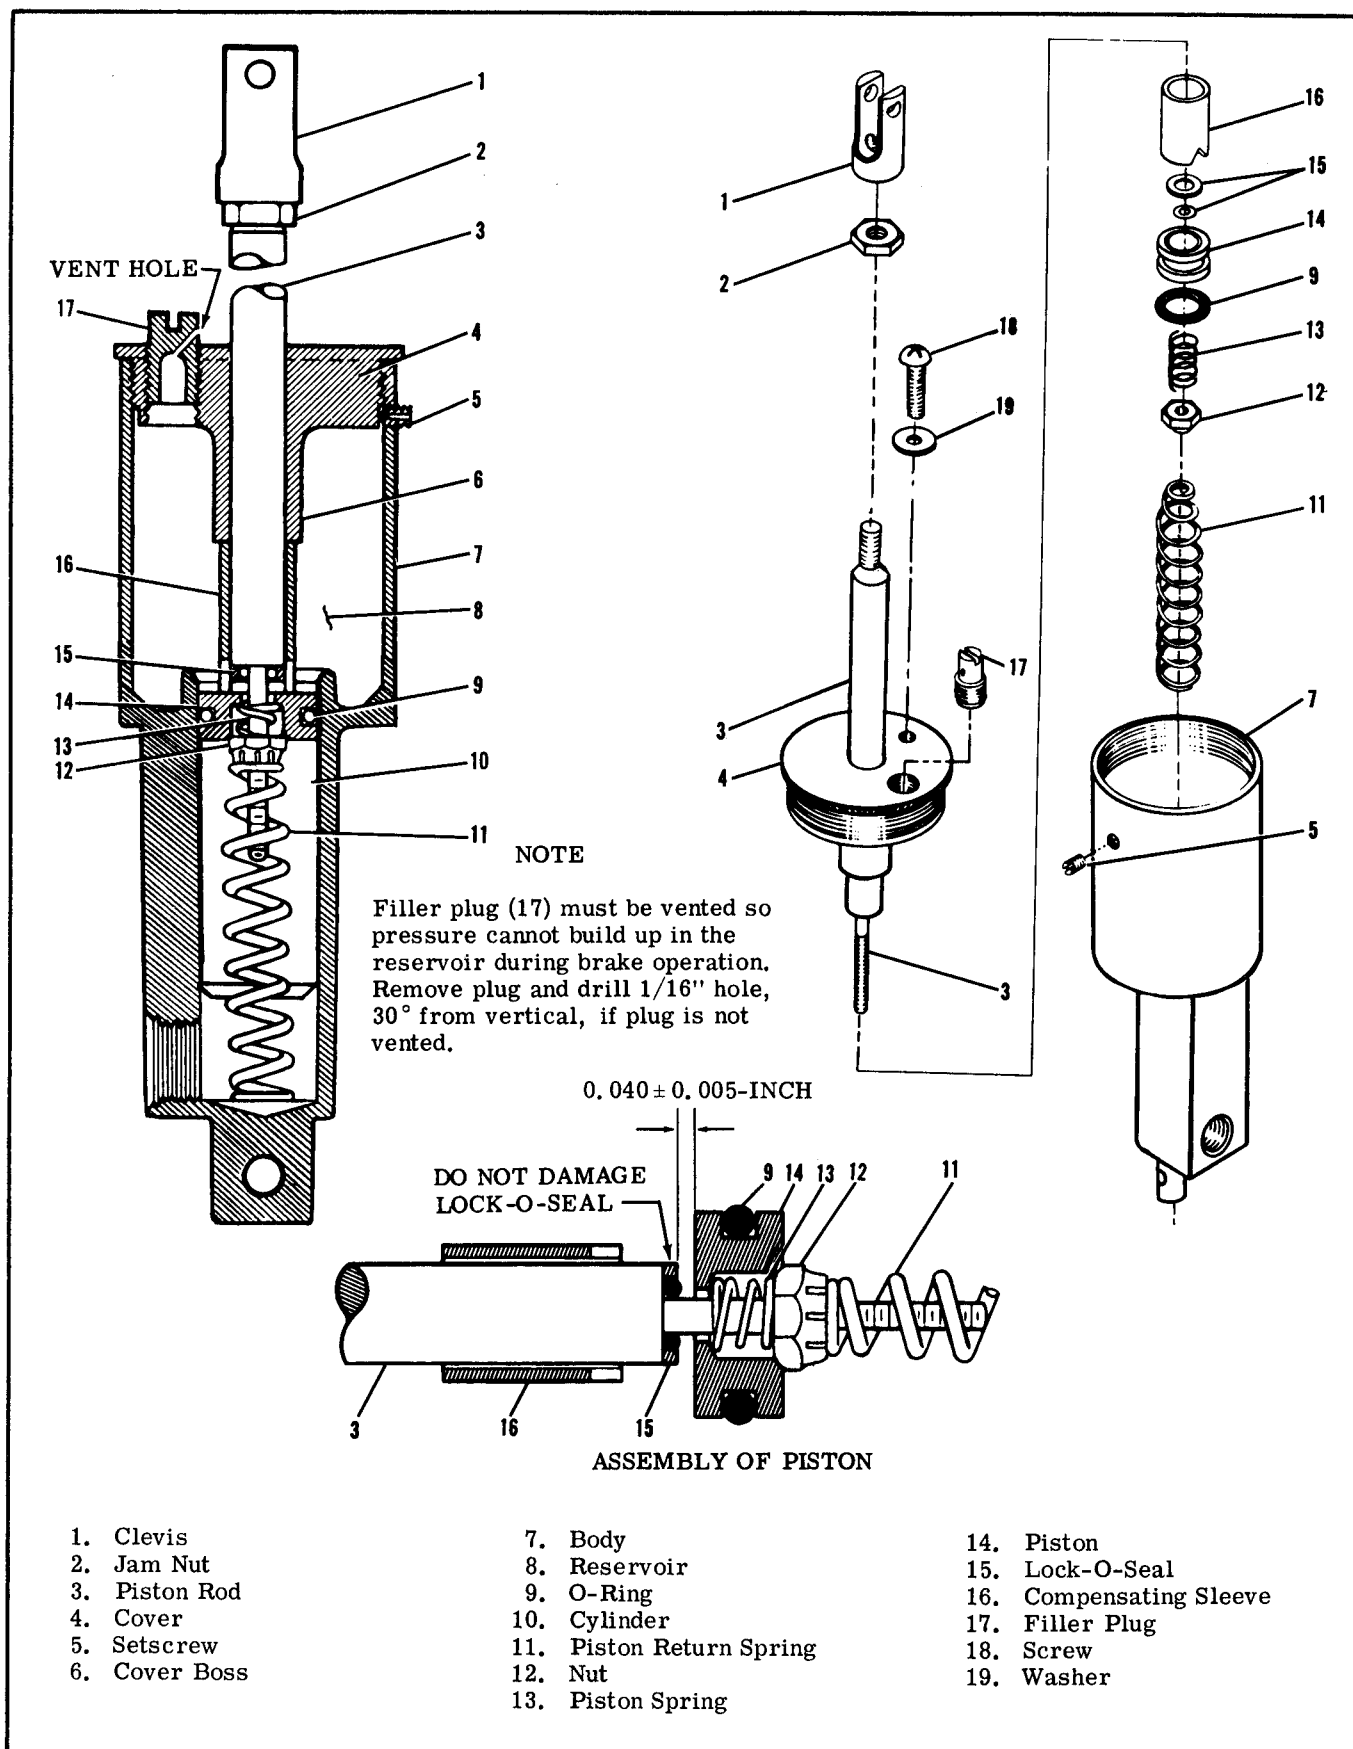

Figure 5-12. Brake Master Cylinder
## 5-61. BRAKE MASTER CYLINDER DISASSEMBLY. (Refer to figure 5-12.)
- a. Unscrew clevis (1) and jamb nut (2).
- b. Remove screw (18) and washer (19).
- c. Remove filler plug (17) and setscrew (5).
- d. Unscrew cover (4) and remove up over piston rod (3).
- e. Remove piston rod (3) and compensating sleeve (16).
- f. Slide sleeve (16) up over rod (3).
- g. Unscrew nut (12) from threads of piston rod (3).
- h. Remove spring (13) and O-ring (9) from piston (14).
- i. Remove Lock-O-Seal (15).
5-62. BRAKE MASTER CYLINDER INSPECTION AND REPAIR. (Refer to figure 5-12.) Repair is limited to installation of new parts, cleaning and adjusting. (Refer to reassembly paragraph for adjustment.) Use clean hydraulic fluid (MIL-H-5606) as a lubricant during reassembly of the cylinders. Inspect Lock-O-Seal (Parker Seal Co. P/N 800-001-6) and replace if damaged. Replace all O-rings. Filler plug (17) must be vented so pressure cannot build up in the reservoir during brake operation. Remove plug and drill 1/16-inch hole, 30° from vertical, if plug is not vented.
## 5-63. BRAKE MASTER CYLINDER REASSEMBLY. (Refer to figure 5-12.)